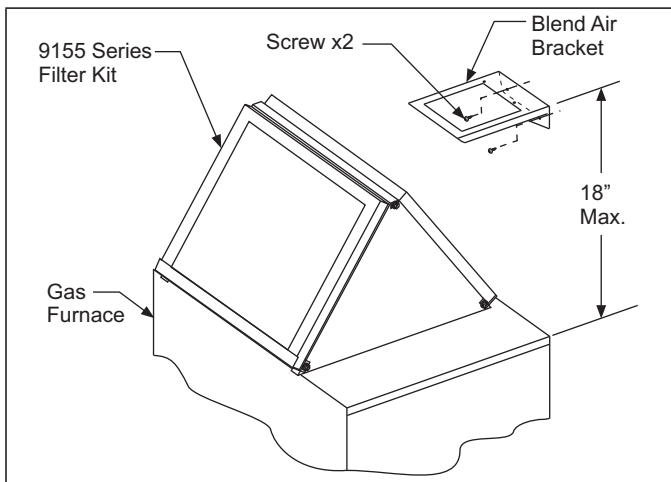

FIGURE 6: Blend Air Bracket
- If the return air duct and plenum are not required by state, local or regional codes then the filter can be attached to the top of the furnace as shown in Figure 6.
This bracket is to be used only for Alcove application on the 95% Gas Furnaces. It helps in installation of Blend Air Damper Tube close to the furnace. It is recommended that the Blend Air be installed with the help of this bracket as close to the furnace as possible. The Blend Air Bracket Assembly should be installed as close to the return air grille as possible. See Figure 6.